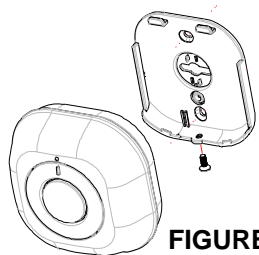

**FIGURE 4**
- For best results, locate the detector directly facing entrance. (FIGURE 4)